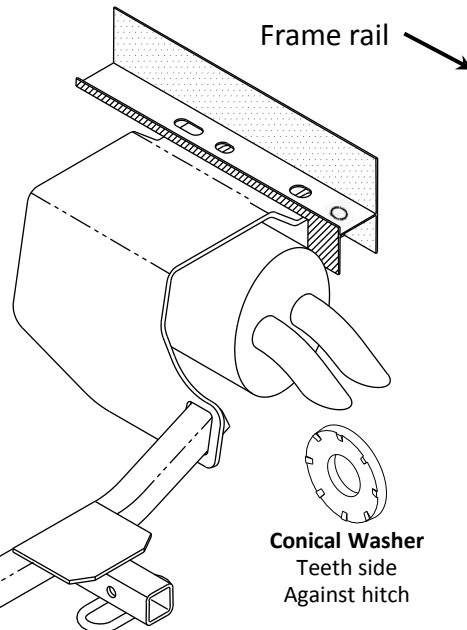

Figure 2
- Lower exhaust and trim heat shield** – Lower the muffler by removing (2) rubber isolator hangers off of hanger rods. (Be sure to support exhaust to prevent damage) Spraying a lubricant or soapy water on the metal hanger rod and the rubber isolator eases removal. **(If necessary)** Remove nuts for muffler heat shield with 10mm socket. Measure 1" rearward from middle attachment hole on heat shield, mark a perpendicular line and remove rear portion of the heat shield. **See Figure 2.** Reinstall heat shield with two remaining attachment holes.
(If necessary) Trim heat shield - Remove nuts for muffler heat shield with 10mm socket. Measure 1" rearward from middle attachment hole on heat shield, mark a perpendicular line and remove rear portion of the heat shield. **See Figure 2.** Reinstall heat shield with two remaining attachment holes.